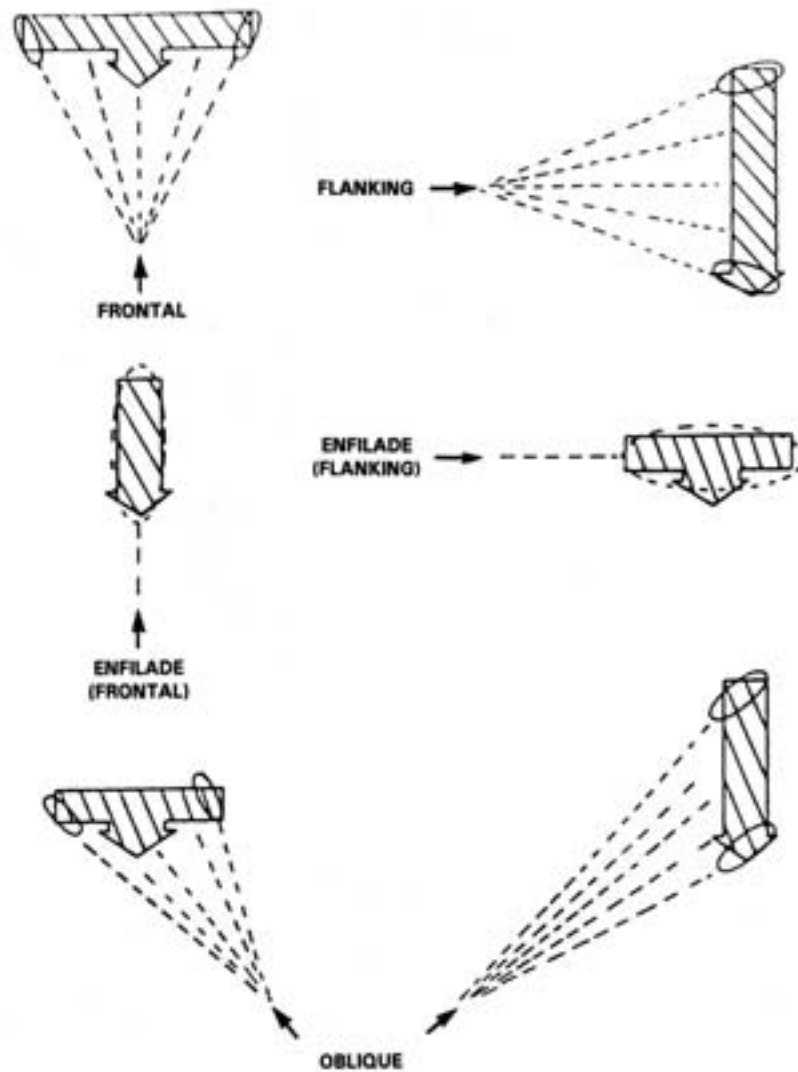

Figure 6-9. Classes of Fire With Respect to the Target.
- a. **Frontal Fire.** The long axis of the beaten zone is at a right angle to the long axis of the target. See figure 6-9.
- b. **Flanking Fire.** Delivered against the flank of a target. See figure 6-9.
- c. **Oblique Fire.** The long axis of the beaten zone is at an angle, but not a right angle, to the long axis of the target. See figure 6-9.
- d. **Enfilade Fire.** The long axis of the beaten zone coincides or nearly coincides with the long axis of the target. This class of fire is either frontal or flanking and is the most desirable class of fire with respect to the target, because it makes maximum use of the beaten zone. See figure 6-9.